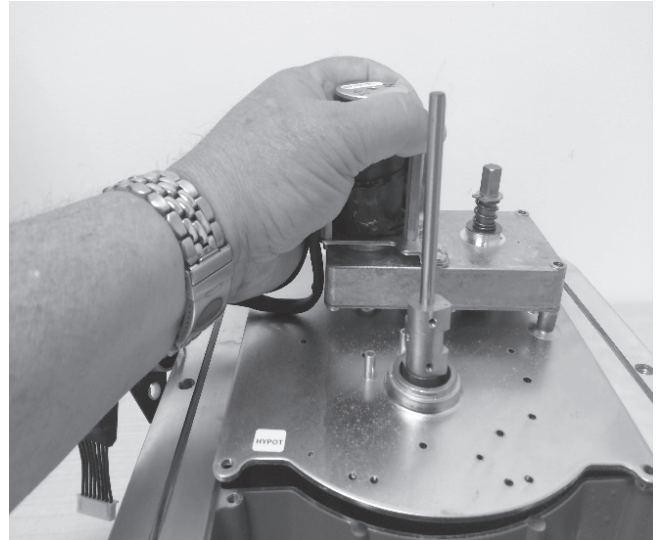

Figure 22.
- 4.24 Grasp the motor and re-install it onto the actuator base, see Figure 22.